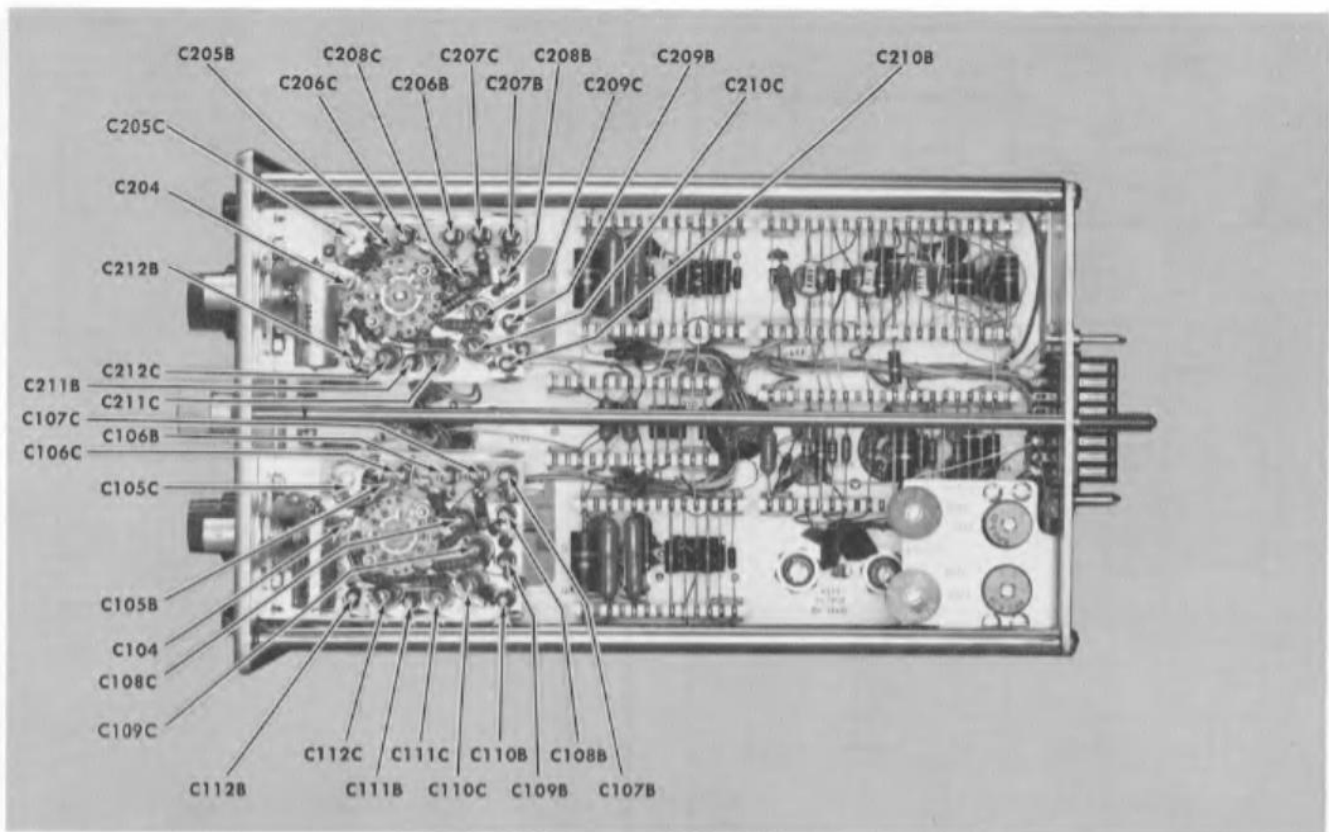

Fig. 7-12. Location of input and attenuator compensation adjustments.
g. Adjust—Input Shunt Capacitor for optimum flat top at each VOLTS/CM switch setting using Table 7-2. See Fig. 7-12 for the location of adjustments.
j. Adjust—Frequency Compensating Capacitor for optimum square corner and flat top at each VOLTS/CM switch setting using Table 7-2. See Fig. 7-11A for waveform and Fig. 7-12 for location of adjustments. (It will not be possible to maintain the 4 cm amplitude at the 5, 10 and 20 VOLTS/CM switch positions.)
m. Perform steps 19d through k, adjusting the Channel 2 capacitors using Table 7-2. Location of adjustments is shown in Fig. 7-12.